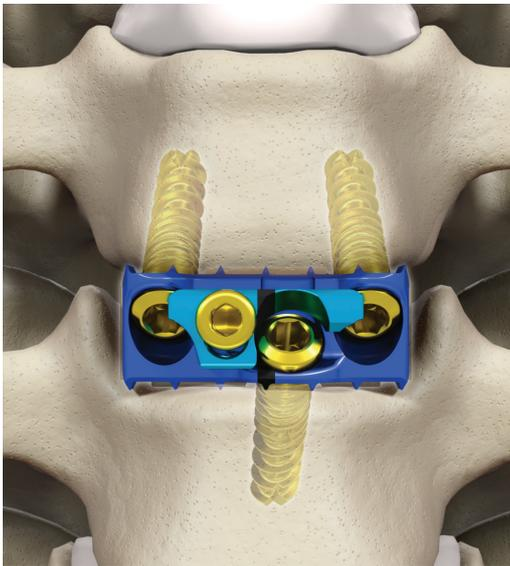

Figure 44
- Turn the driver clockwise. As the screw tightens, the teal locking cap will slide over the screw heads. Turn the torque limiting handle until an audible click is heard when the locking mechanism is tightened to 4 in-lb. The locking mechanism and torque limiting handle will provide visual, audible, and tactile confirmation that the locking mechanism is fully secured and the screw heads are partially covered (Figure 44).